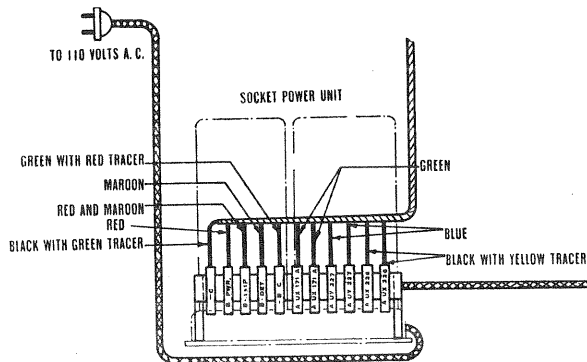

Fig. 1
- Test between the -B+C terminal and B+ Det. and B+ Ampl. terminals (See Fig. 1).
- If the filaments in the radio set fail to light, refer to Fig. 1 and check the various filament terminals of the socket power unit in the following manner: